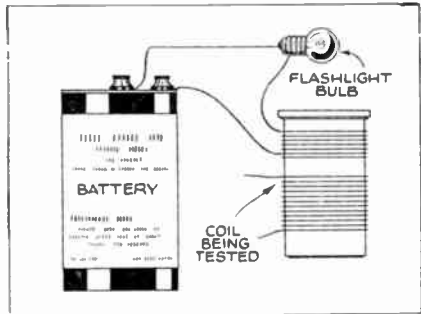

Fig. 57
(A) You probably burned out the primary of the first R.F. transformer (antenna coil). Replace it with a new coil if it appears to be burned, or if it tests open with a flashlight bulb and dry cell, as in Fig. 57.